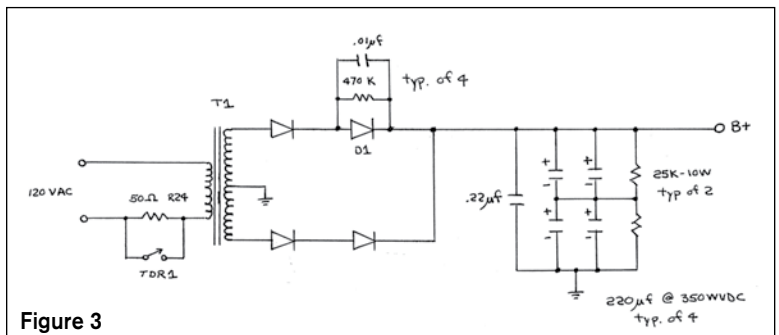

Figure 3
1. If there were to be major changes in the power supply, I would recommend two items. First, use 3A at 1000V PIV diodes, with suppression capacitors and equalization resistors, for rectification. Second, replace the filter capacitors with series parallel connected 220μF at 350WV DC Ruby capacitors. This will give you more energy storage and “punch” to your audio (**Fig. 3**).